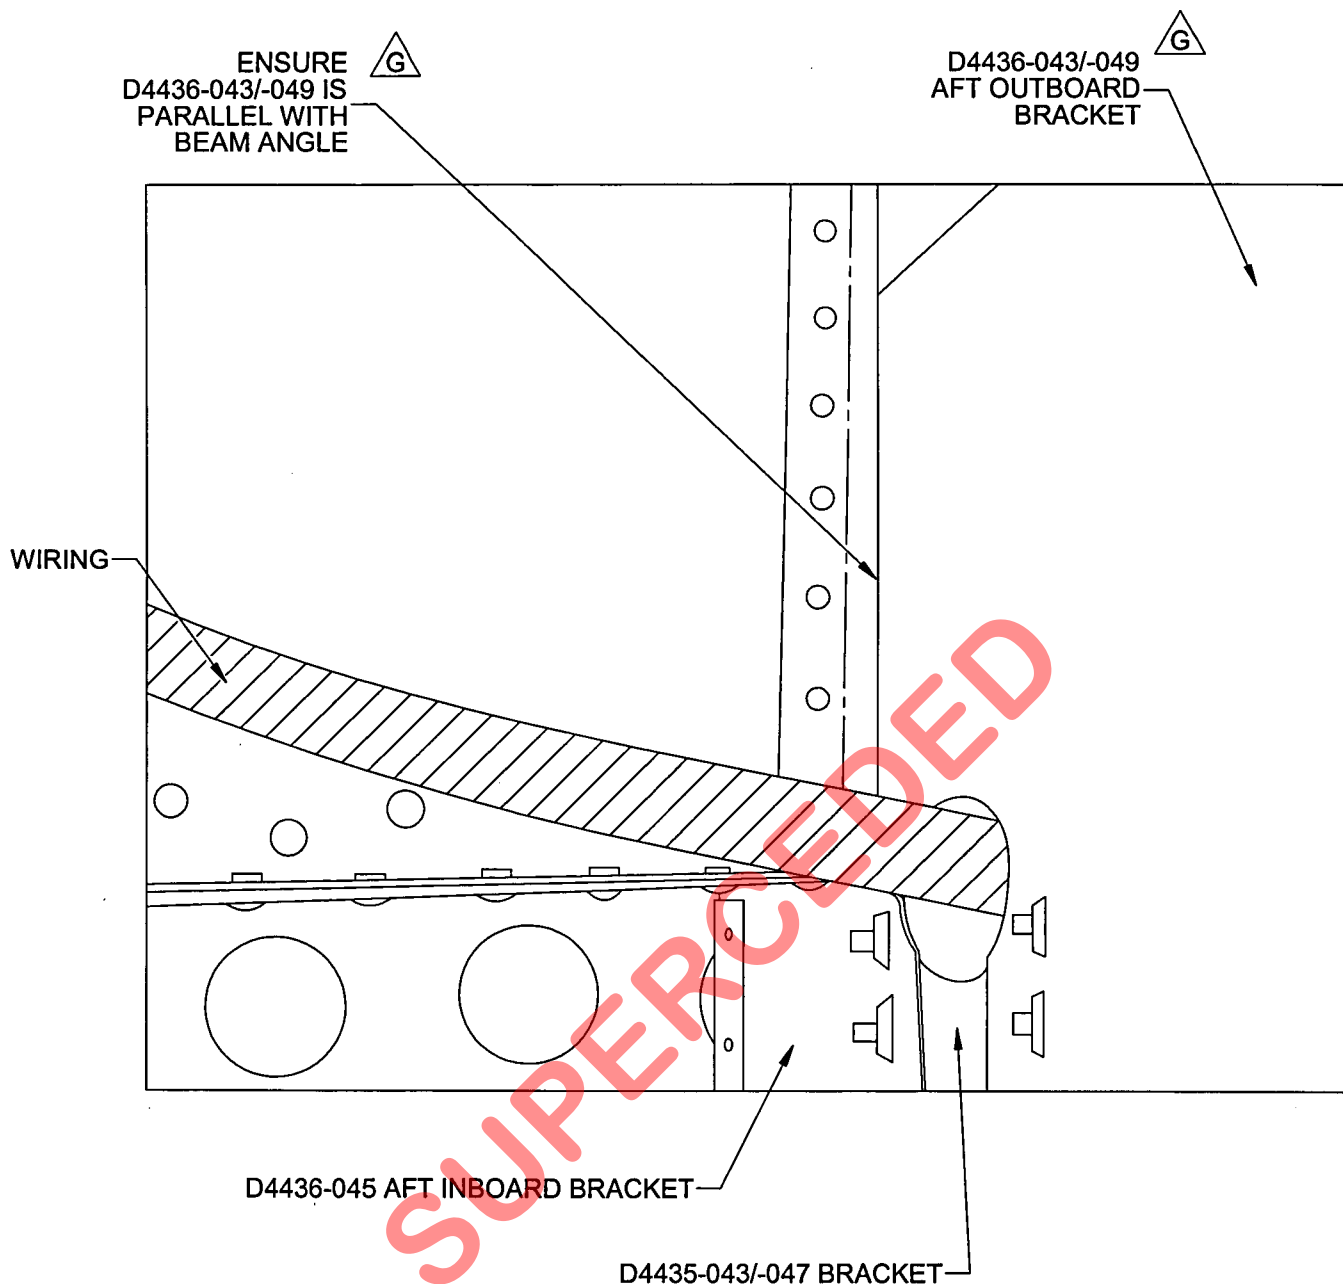

Figure 4. D4436-043/-049 & D4435-043/-047 Brackets Installation △ G
- Confirm that the D4436-043/-049 Aft Outboard Bracket and beam angle are parallel as shown in Figure 4.